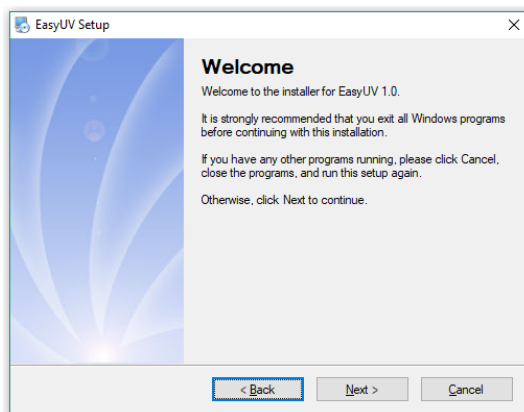

Fig. 2.2-1 Installation box
- Double Click to open the CD-ROM, and then, double click **Setup.exe** (execute as Administrator) which is under the root directory of CD to start installation (Fig.2.2-1), click **Next**;